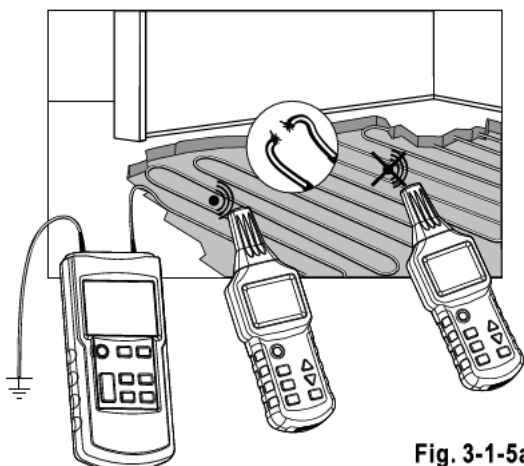

Fig. 3-1-5a
- All unused leads must be connected to auxiliary ground as shown in Fig. 3.1.5a.